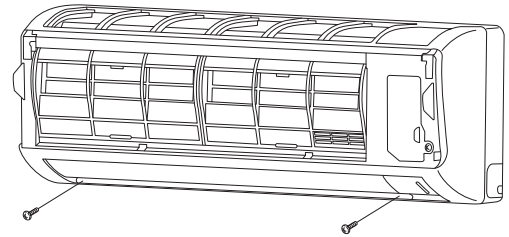
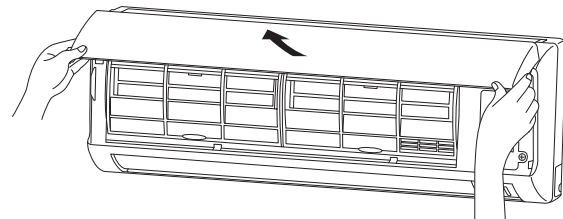

Fig. 3-41
Fig. 3-44
- (2) Remove the 2 screws. (Fig. 3-41)
- (2) Make sure that the grille and frame are firmly fitted together by engaging the tabs.
- (3) Affix the grille with the 2 previously removed screws. (Fig. 3-41)
- (4) Install the air intake grille.
- (a) Allow the edge of the air intake grille to slide into the top of the indoor unit, and then insert it all the way inside. (Fig. 3-44)